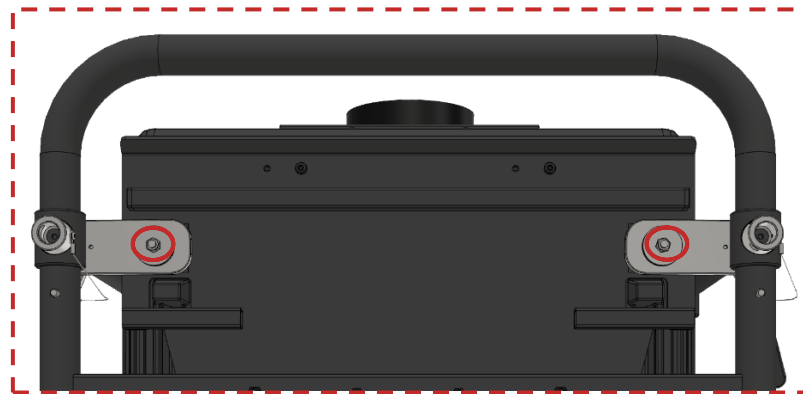
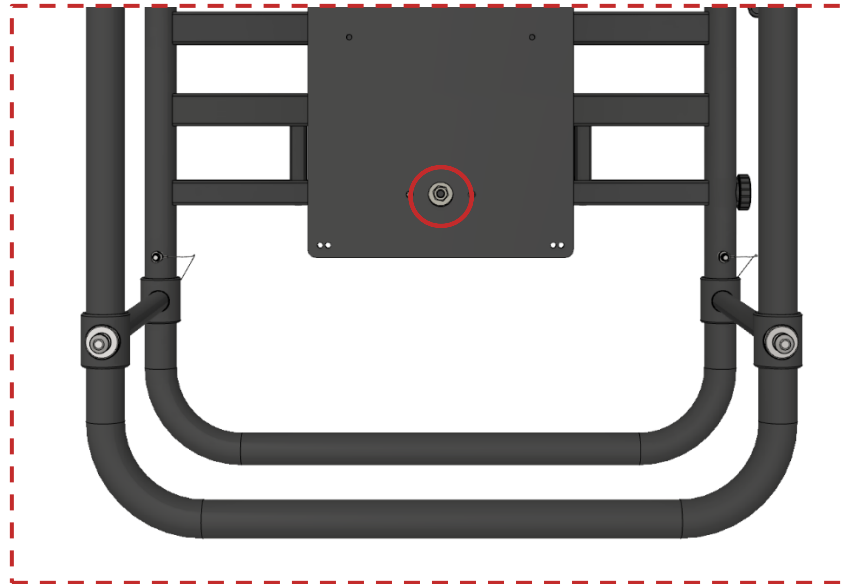

Figure 20 Nuts on front bottom side which are sealed with red colour wax
Figure 21 Nut on centre top side which is sealed with red colour wax
- On the three screws + nuts presented on the above two pictures (Figure 20 and Figure 21) red color sealing wax was applied to be sure that the nuts will always be on the same position and no one will try to tighten or loose them.
Except for the three nuts described on the previous section (see Figure 20 and Figure 21), please control, with corresponding tool, that all the other screws are properly tightened.